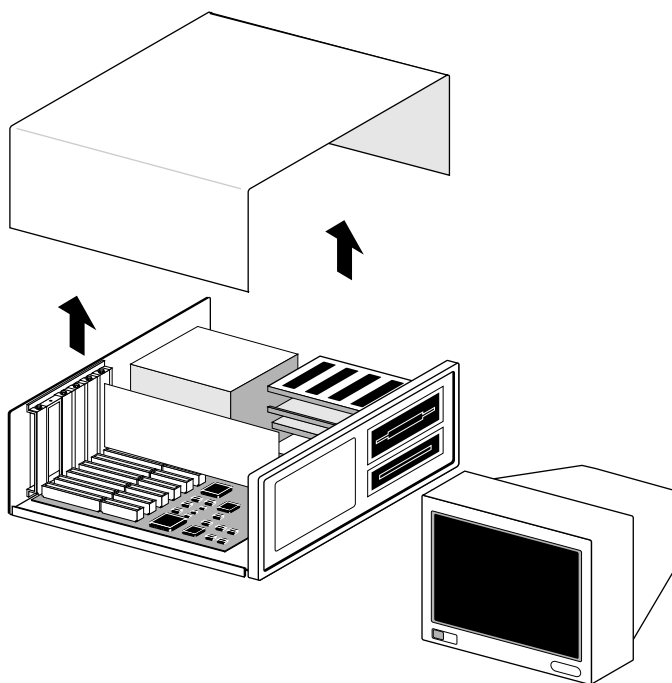

Figure 2-2 Removing the Cover
- 1 Remove the PC's cover and choose an empty expansion slot, as shown in Figure 2-2.